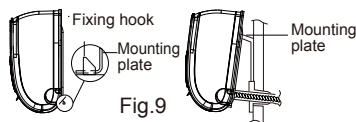

Fig.9
- Hang the mounting slots of the indoor unit on the upper hooks of the mounting plate and check if it is firm enough. (As shown in Fig.9)